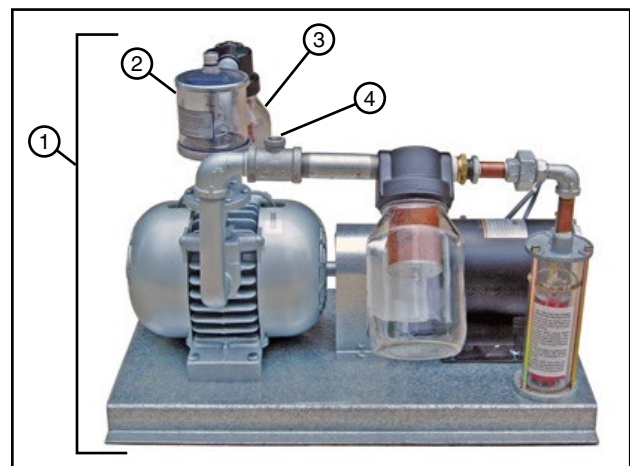

Figure 83-3 1. Electric primer pump 2. Bearing Oiler 3. Air Filter 4. Shown without vacuum gauge
- The Vacuum Pump requires occasional flushing. Remove the pressure gauge and run 1/4 cup of flushing solvent (GAST AH225 or equivalent) through the pump. See Figure 83-3.
- LUBRICATION: The automatic bearing oiler should be refilled as needed with a high detergent automotive engine oil with a viscosity equivalent to SAE 10W or less. See Figure 83-3.
- AIR FILTER: Clean the air filter regularly. Remove air filter from its holder and wash thoroughly in solvent and let dry completely, then re-install air filter in its holder. Replace air filter every year. See Figure 83-3.